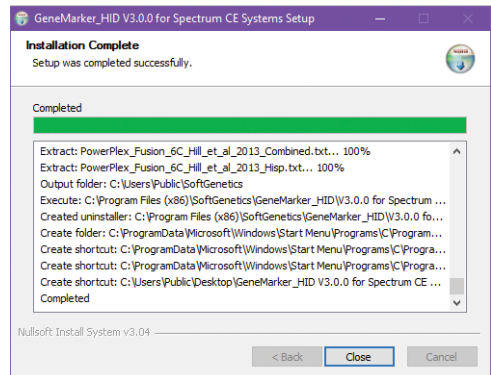

Figure 25. 'Installation Complete' window.
8. Select **Close** in the 'Installation Complete' window (Figure 25).